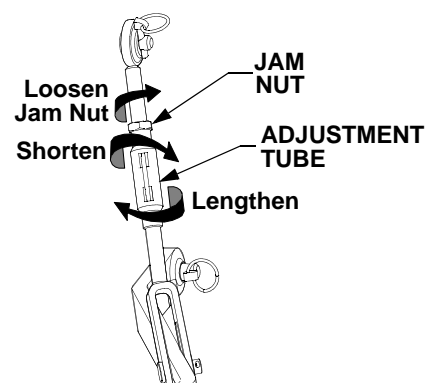

Figure 25
- Adjust the RH adjustable lift link to *level* the lower hitch links. Loosen the jam nut and turn the adjustment tube as shown in Figure 25 to shorten or lengthen the lift link. Tighten the jam nut against the adjustment tube after adjusting.